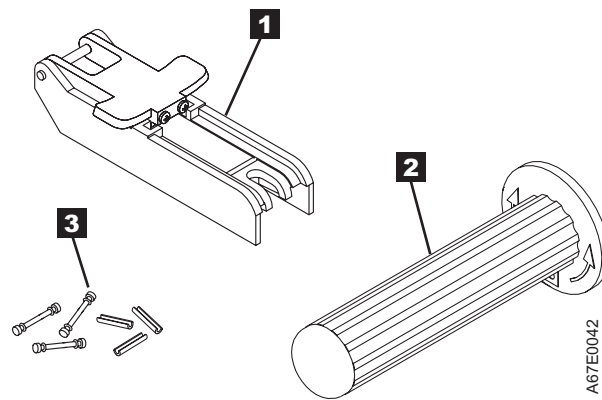

Figure 21. Leader Pin Reattachment Kit
- **Leader pin attach tool** (see **1** in Figure 21 on page 45). A plastic brace that holds the cartridge door open.
- **Cartridge manual rewind tool** (see **2** in Figure 21). A device that fits into the cartridge's hub and lets you wind the tape into and out of the cartridge.
- **Pin supplies** (see **3** in Figure 21). Leader pins and C-clips.